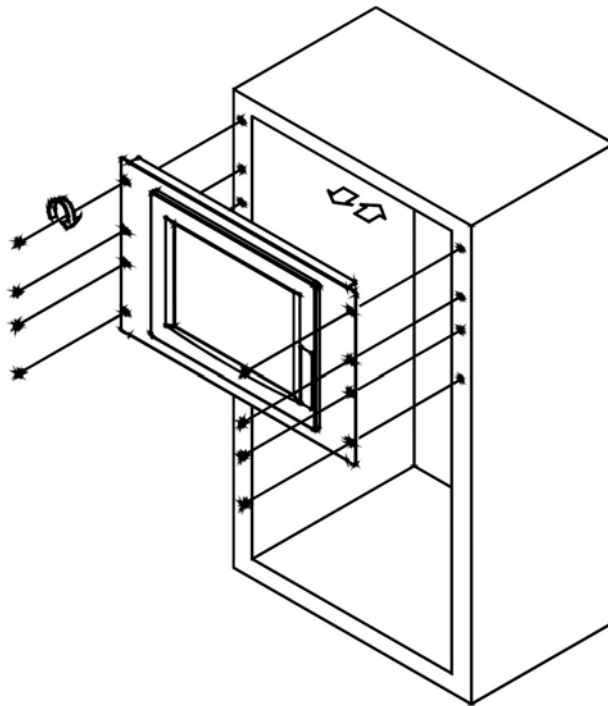

Figure 5-10: Install into a Cabinet/Rack
Step 5: Slide the monitor with the attached rack mount kit into a rack or cabinet (Figure 5-10).
Step 6: Once the monitor with the attached cabinet/rack has been properly inserted into the rack or cabinet, secure the front of the rack/cabinet bracket to the front of the rack or cabinet (**Figure 5-10**).